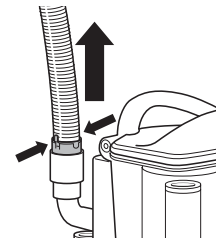

Fig. 28
- Detach the stretch hose from the back of the pod by squeezing the tabs together and pulling up. **(Fig. 28)** Straighten out the hose and look inside for blockages.